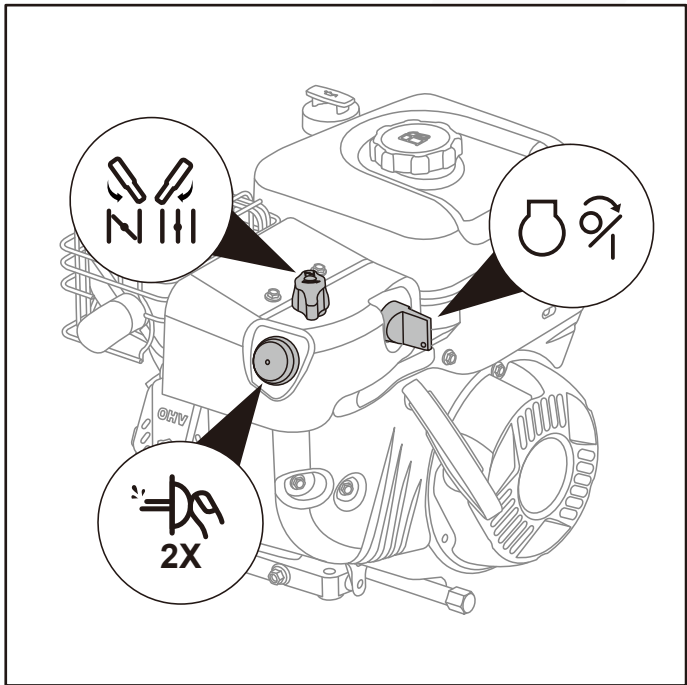

Fig. 9A
1. Make sure the safety key is inserted and turned to the "ON" position. (Fig. 9A)
2. Move the choke control to the CLOSED position. (Fig. 9A)
3. Push the primer bulb two (2) times.(Fig. 9A)
5. As the engine warms, move the choke control to the OPEN position. (Fig. 9A)